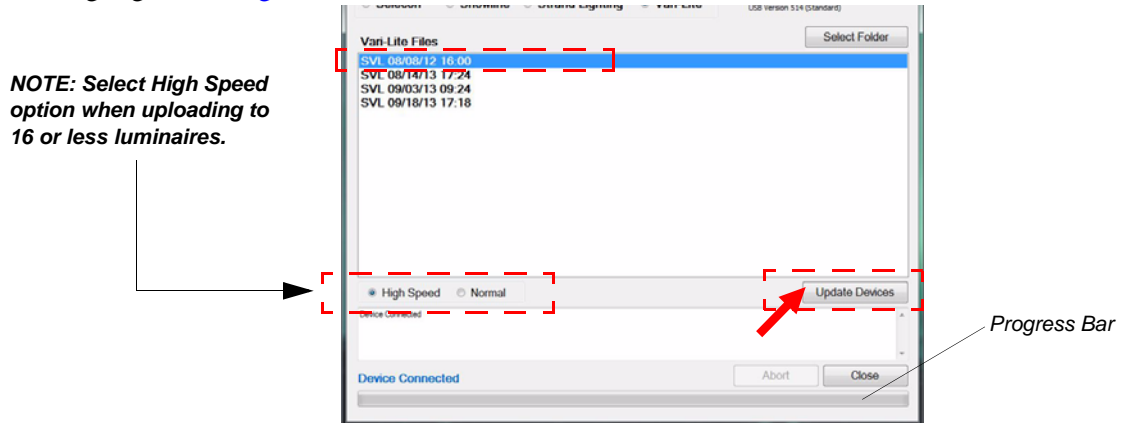

Figure 3-11: bin File Selection
- Step 7. Click on bin file for luminaire to be updated (for example, SVL_080812.bin) as highlighted in Figure 3-11.
- Step 8. As indicated in Figure 3-11, click on Update Devices to start upload.